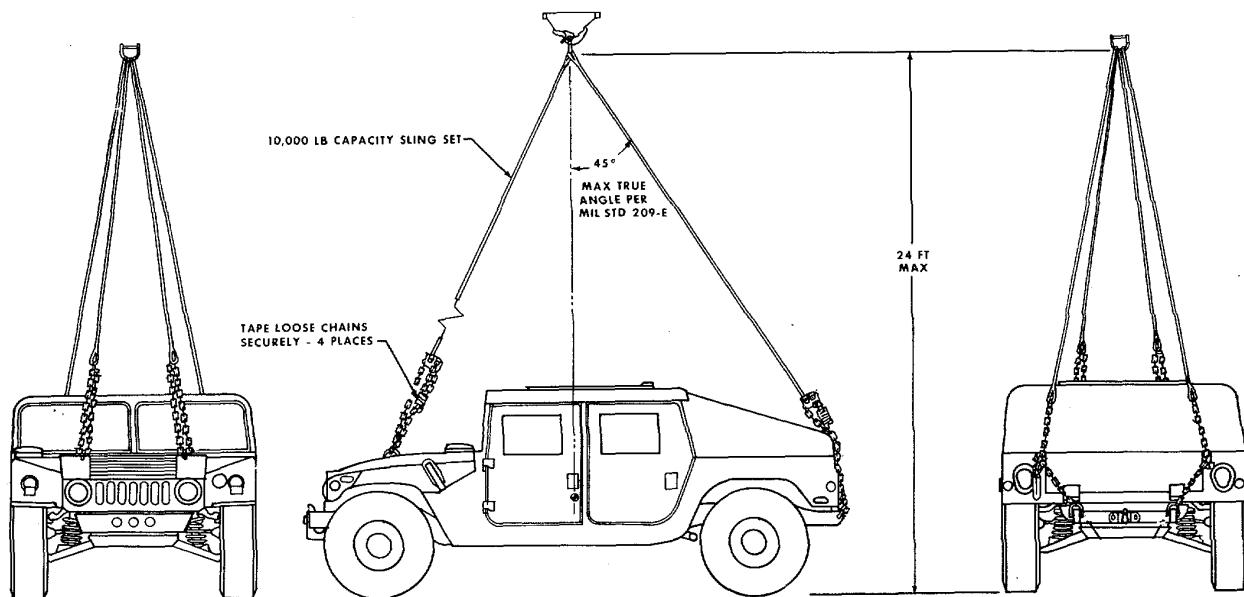

Figure 4-5. Typical sling loading of basic HMMWV for external lift by helicopter.
a. The HMMWVs can be externally transported by CH-47 and CH-53 helicopters. Figures 4-5 through 4-7 show the proper method to sling load the HMMWVs. This method is also used when the HMMWV must be lifted for other modes of transportation. The data plate, located on the left rear fender of each HMMWV, also shows the sling-load diagram.
a. *Lifting.* The vehicle has four lifting points, two in the center of the hood and two at the rear of the vehicle. The vehicle will be lifted using the four-legged sling method, as shown, in figures 4-5 through 4-7 in chapter 4 and on the data plate on the left rear fender of each HMMWV.